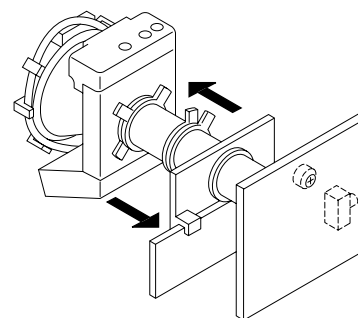

Fig. 5-2
5. Move the deflection yoke forward and adjust so that the entire screen is green. (See Figure 5-2.)